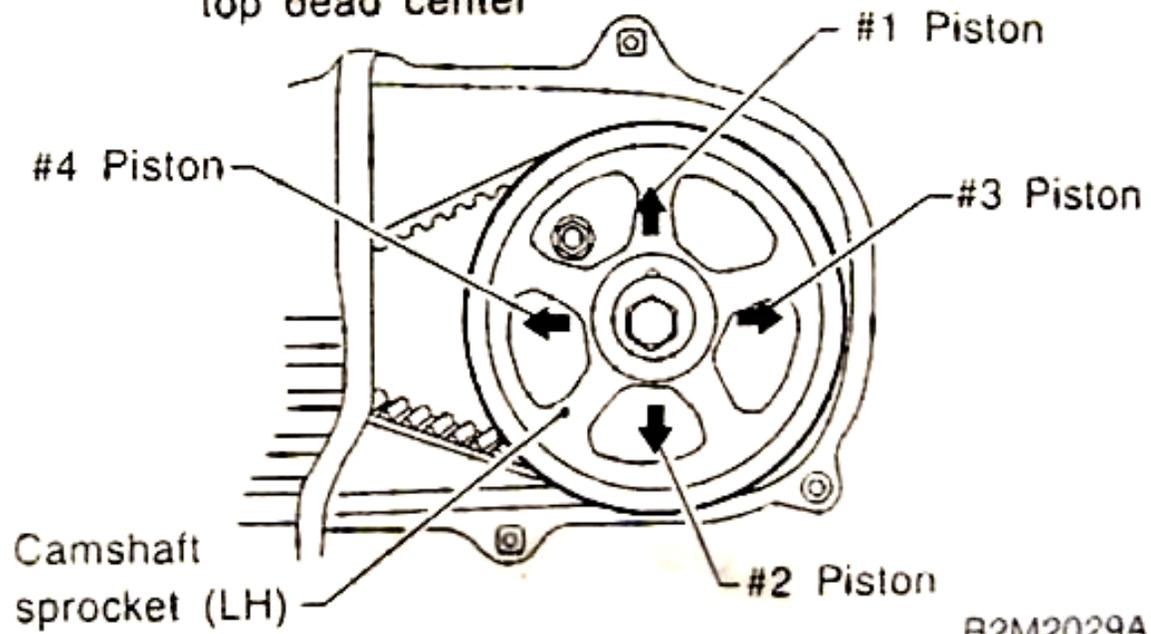

Figure 11
2. Set #1 cylinder to Top Dead Center **(Figure 10)**, and check the valve clearances. **Intake: 0.007" Exhaust: 0.009"**. **(Figure 11)**